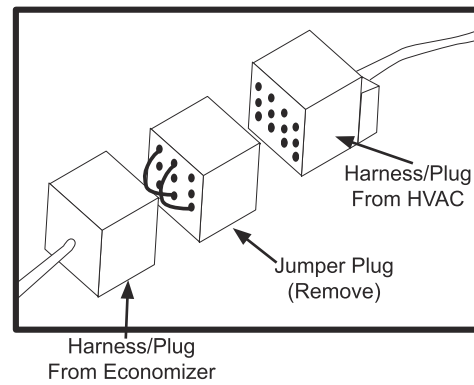

Fig. 3 - Unit Wiring Harness Plug
- Remove and save the 12-pin jumper plug from the unit wiring harness. Insert the harness from the 2-position damper plug into the unit wiring harness plug. (See Fig. 3.)